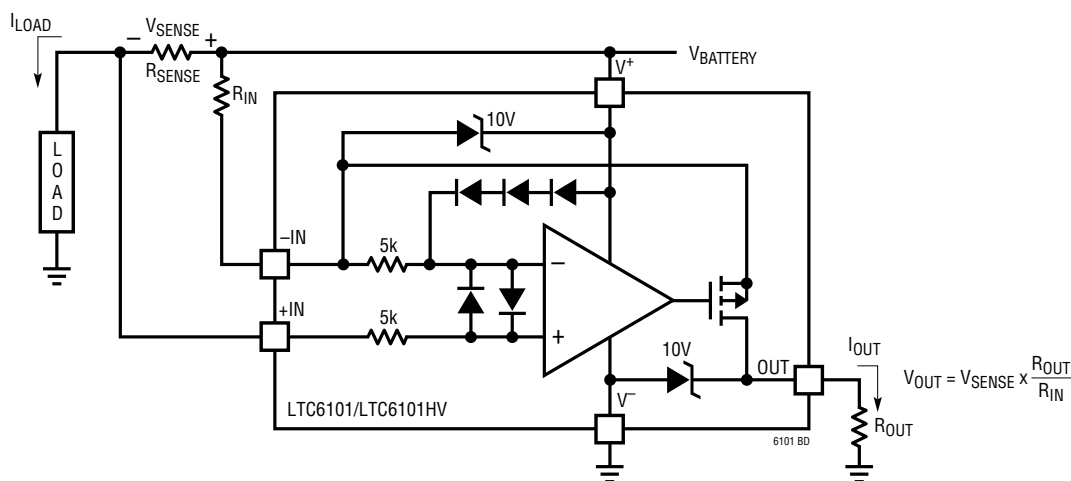

Figure 1. LTC6101/LTC6101HV Block Diagram and Typical Connection
-IN: The internal sense amplifier will drive IN⁻ to the same potential as IN⁺. A resistor (R_{IN}) tied from V⁺ to IN⁻ sets the output current I_{OUT} = V_{SENSE}/R_{IN}. V_{SENSE} is the voltage developed across the external R_{SENSE} (Figure 1).
The LTC6101 high side current sense amplifier (Figure 1) provides accurate monitoring of current through a user-selected sense resistor. The sense voltage is amplified by a user-selected gain and level shifted from the positive power supply to a ground-referred output. The output signal is analog and may be used as is or processed with an output filter.